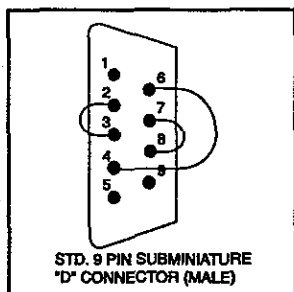

Figure 2-2. Communications Emulator Plug
4. Communications Emulator plug (see Figure 2-2) [if communications option is installed].